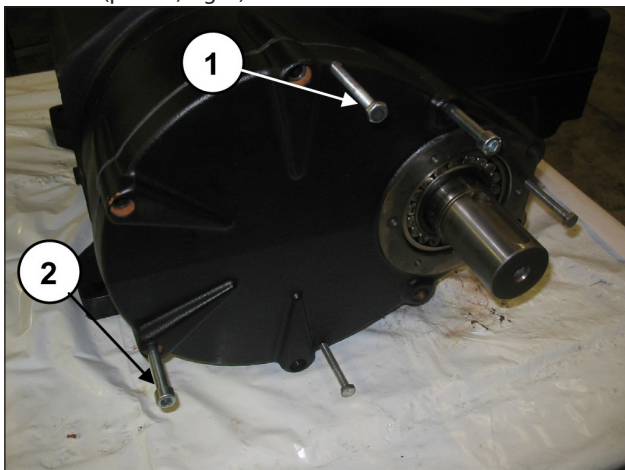

Fig. 7
Position the 3 grub screws or M8 threaded screws (pos. ①, Fig. 7) with the function of extractors in the holes and two sufficiently long M10 screws with the function of supporting the cover (pos. ②, Fig. 7).